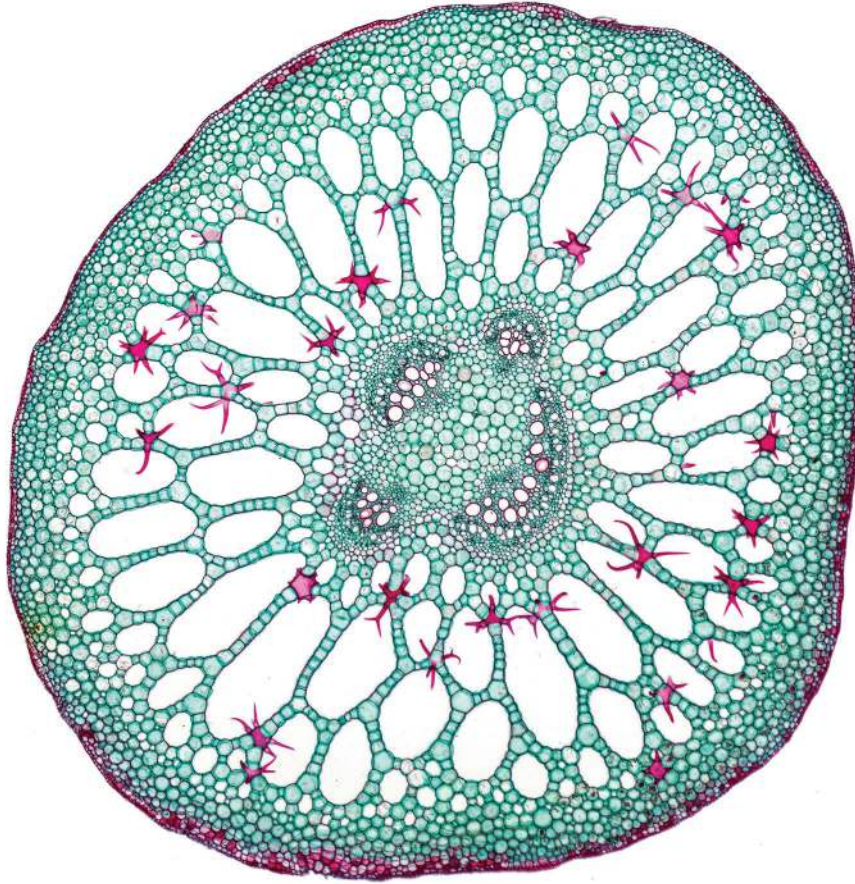
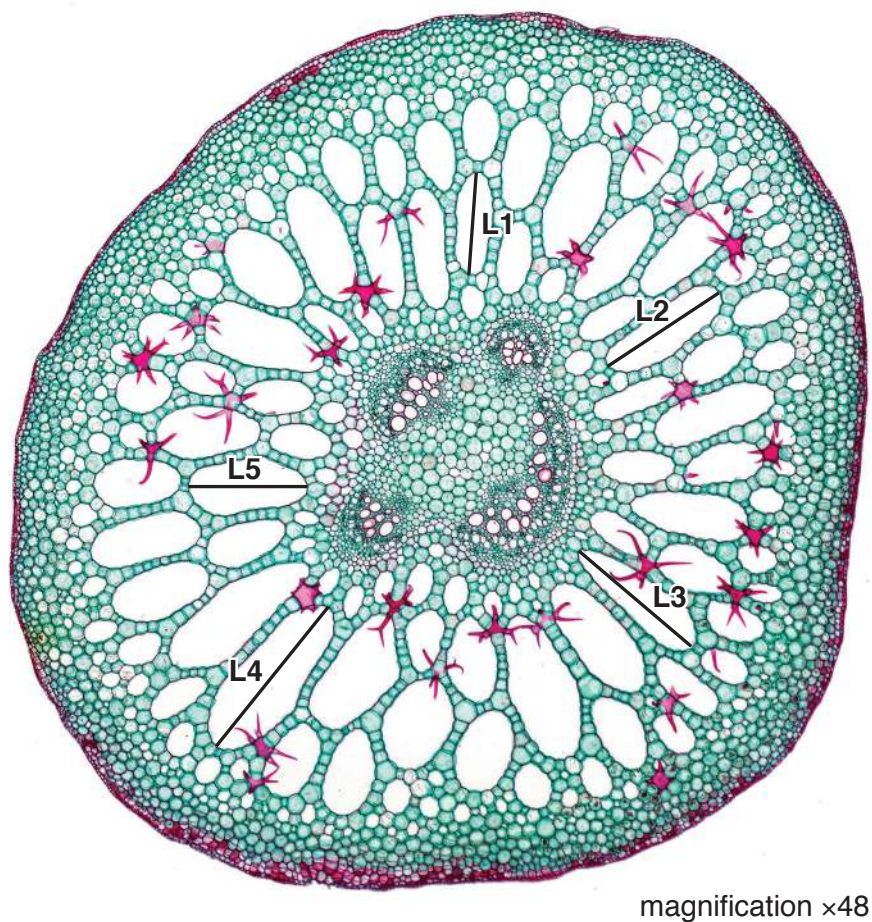

Fig. 2.2
Fig. 2.3
- (b) Fig. 2.2 is a photomicrograph of a transverse section through a stem of a different type of plant.
Identify **three** observable differences, other than size and colour, between the stem on slide **J1** and the stem in Fig. 2.2.
(c) Fig. 2.3 is the same photomicrograph as the transverse section of the stem shown in Fig. 2.2.
- (i) Measure the lengths of the lines **L1**, **L2**, **L3**, **L4** and **L5** in Fig. 2.3. The lines have been drawn along the lengths of five air spaces.
- (ii) Using the magnification stated in Fig. 2.3, calculate the actual mean length of the air spaces labelled **L1**, **L2**, **L3**, **L4** and **L5**.